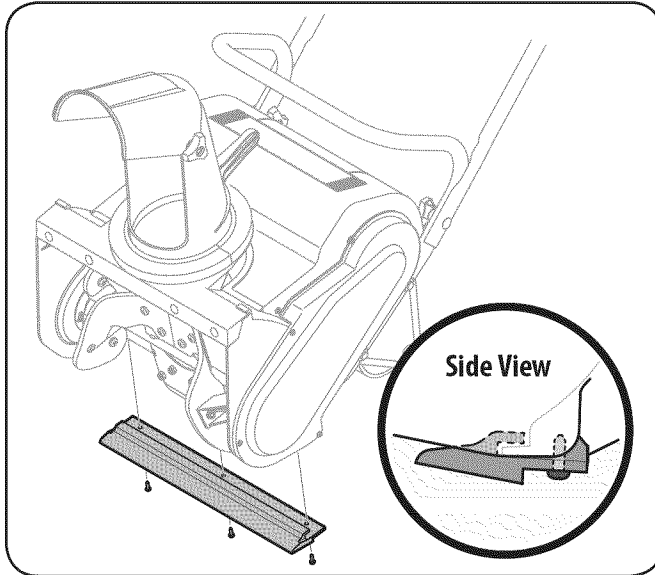

Figure 7-1
1. Remove the three screws securing the skid plate to the auger housing. See Fig. 7-1.